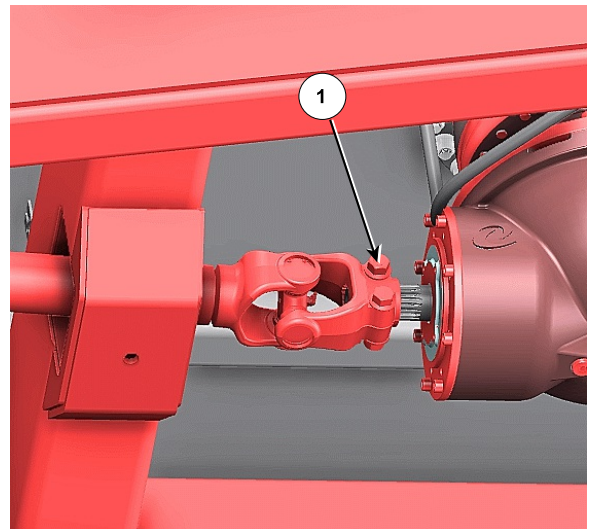

Figure 4: Remove the Driveline from the Machine 224292C
7. Loosen the driveline fasteners (1) from the front screw planetary splined shaft, see *Figure 4*.
- Note: The driveline on an AMX520T is not mounted through the frame. *Figure 4* shows an AMX850T as an example.